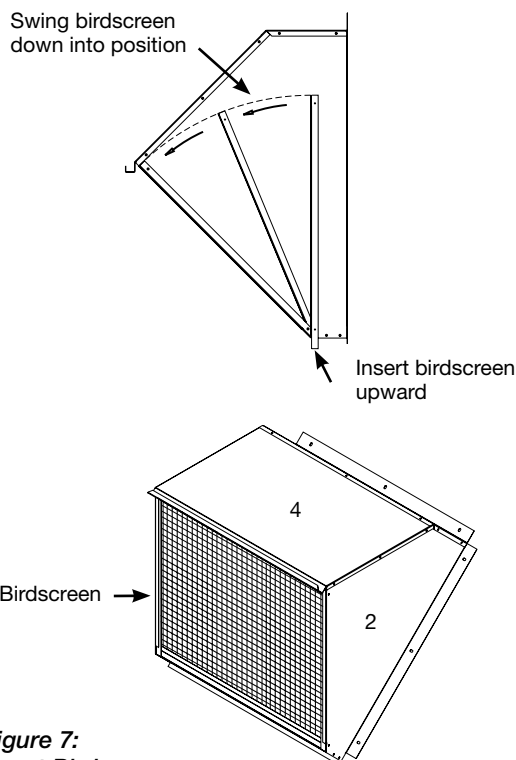

Figure 7:
5. Install the bottom panel (6) to the sides using the 5/8 inch (16 mm) length sheet metal screws. Place the bottom panel (6) inside each flanged side.
6. Refer to Figure 7 and slide the birdscreen into the bottom of the assembled weatherhood through the openings on the underside. Place birdscreen in the frame and rest on the flanges on each side. Fasten screen to each side using the 5/8 inch (16 mm) length sheet metal screws.